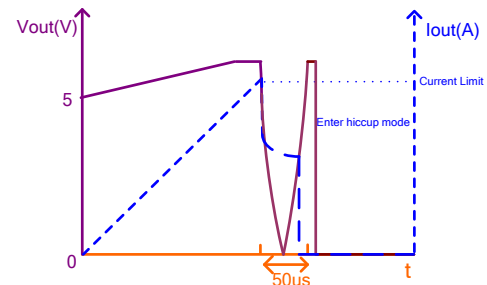

Figure 7: Over-Current Limit for CR Load
After the soft start finishes, if the USB output voltage is lower than 3.5V and lasts longer than 50µs, the MP5408 enters hiccup without having to wait 5ms (see Figure 7). This can prevent abnormal thermal rise during the constant resistor (CR) load over-current case.